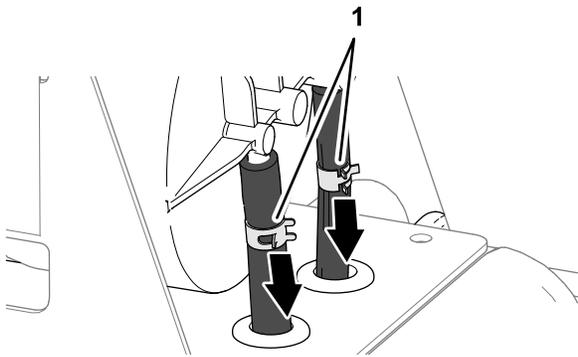

Figure 81
3. Loosen the 2 hose clamps that secure the hoses to the fittings of the carbon canister (Figure 81).